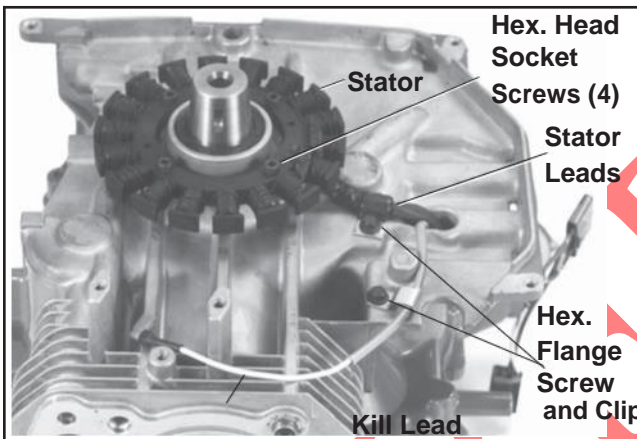

Figure 11-26. Installing Stator.
1. Push the stator leads through the hole to the outside of the crankcase. See Figure 11-26.
5. Install the kill lead through the same hole as the stator lead, from the outside of the crankcase. Secure the kill lead to the crankcase with the clip and hex. flange screw. See Figure 11-26.